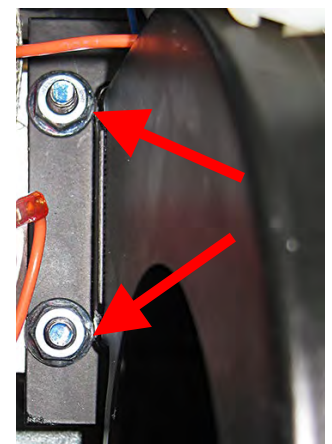

Figure 5
5. Remove the left blower nuts using a 7/16" driver and loosen the right blower nuts 2 or 3 turns (see Figure 5).